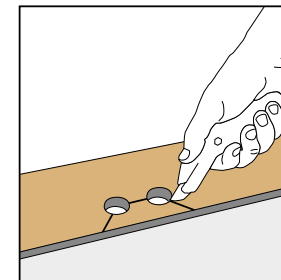
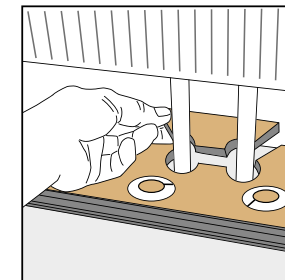

Figure 41
Figure 42
- ▶ Mark the centres of the holes on both the long and short sides using a carpenter's square and a pencil. Where the marks cross, drill a pilot hole using a thin #6 or #8 drill bit. Further drill the hole with a spade bit wide enough to accommodate both the diameter of the pipe and the required expansion gap. Cut around as shown with a saw or utility knife (Fig 41) and put a bead of suitable contact adhesive on the cut piece and replace (Fig 42). Insert a spacer directly behind the inserted piece to wedge it in place ensuring that the correct sized expansion gap has been left. Leave this in place until the adhesive has hardened.